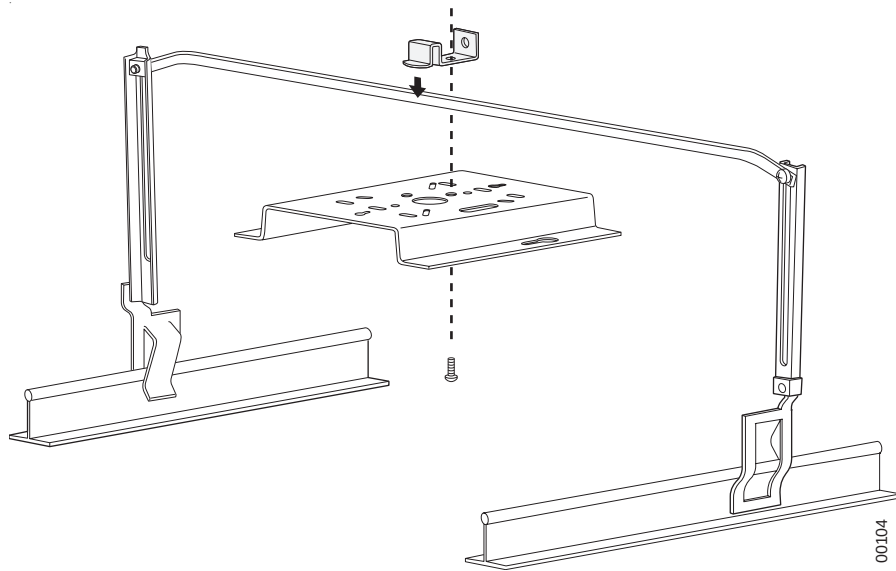

Figure 21: Attaching the Mounting Bracket to the Box Hanger
4. Attach the U-joint of the clip to the T-bar and snap in place (see Figure 21).
5. Pass the long end clip through the large center hole to the underside of the the mounting bracket clip and then attach the bracket to the clip using the supplied screw (see Figure 21 for orientation).